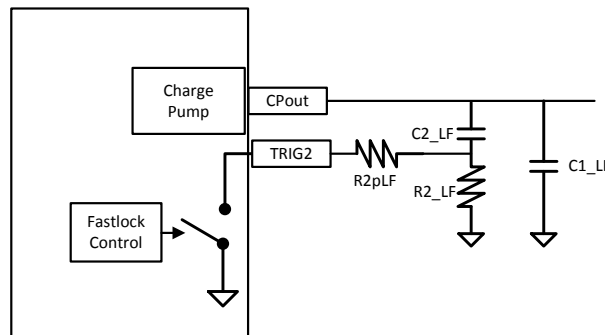

Figure 12. Suggested Schematic to Enable the Variable Loop Bandwidth Filter In Fastlock Mode
3. The loop filter can be configured to have a switchable R2 resistor to increase loop bandwidth and hence reduce lock time. A resistor R2pLF is added in parallel to R2_LF and connected to the a terminal on the PLL to use the internal switch. Any of the terminal MUXout, MOD, TRIG1, or TRIG2 can be configured for the function. The terminal configuration is set as *Output TOC Running*. Also set the terminal as *output inverted OD* (OD for open-drain) so the output will be high impedance in normal operation and act as ground in Fastlock. The suggested schematic for that feature is shown in Figure 12.